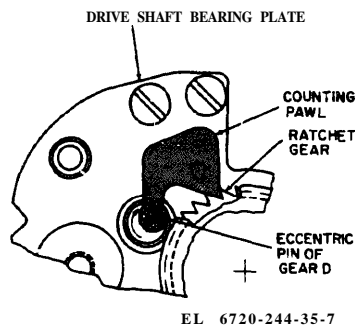

Figure 1-11. Frame counting mechanism.
b. *Frame Counter* (fig. 1-11). A frame counting dial advances one index each time the winding lever completes a stroke. An eccentric pin on top of gear D couples with the counting pawl. A spring-loaded, flatheaded pin on the under side of the pawl rides in an elliptical slot. The pawl